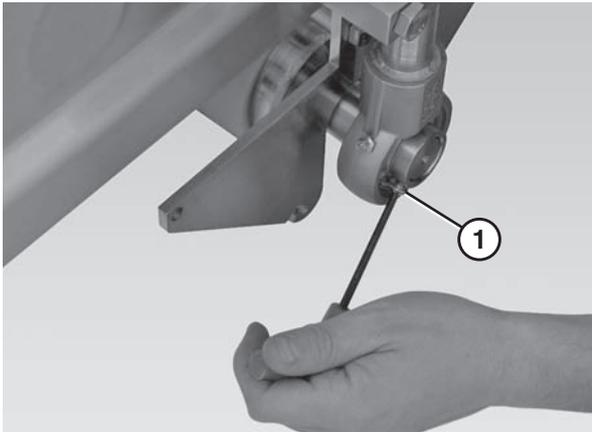

Figure 63
11. Use a 4 mm hex wrench to loosen the button head screws on the bearing (**Figure 63, item 1**).